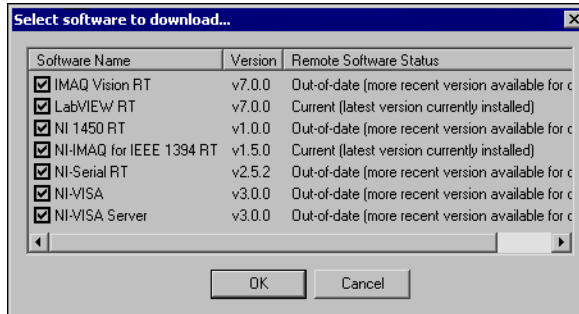

Figure 3. Selecting Software for the Target Machine
- d. From the Software tab, click **Install Software**. Select **NI-IMAQ for IEEE 1394 RT**, as well as any additional software you would like to install on the target machine, as shown in Figure 3.